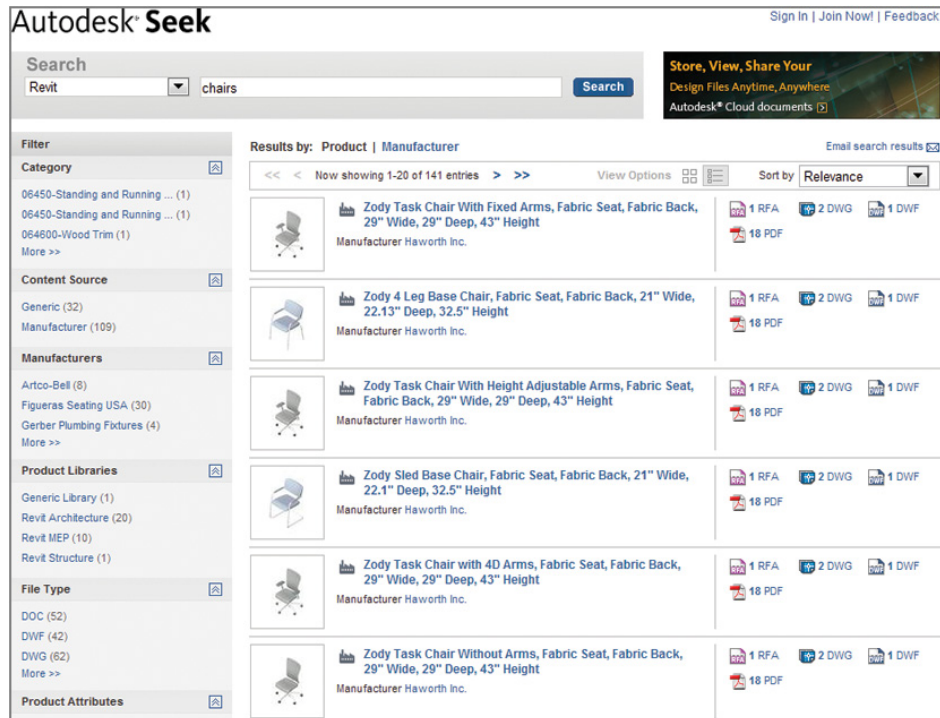

FIGURE 5.12 Content search results in Autodesk Seek
3. Your default web browser opens to the Autodesk Seek website. The results displayed match the search criteria of *chairs* and are filtered to show only content that offers Revit Architecture families (Figure 5.12).